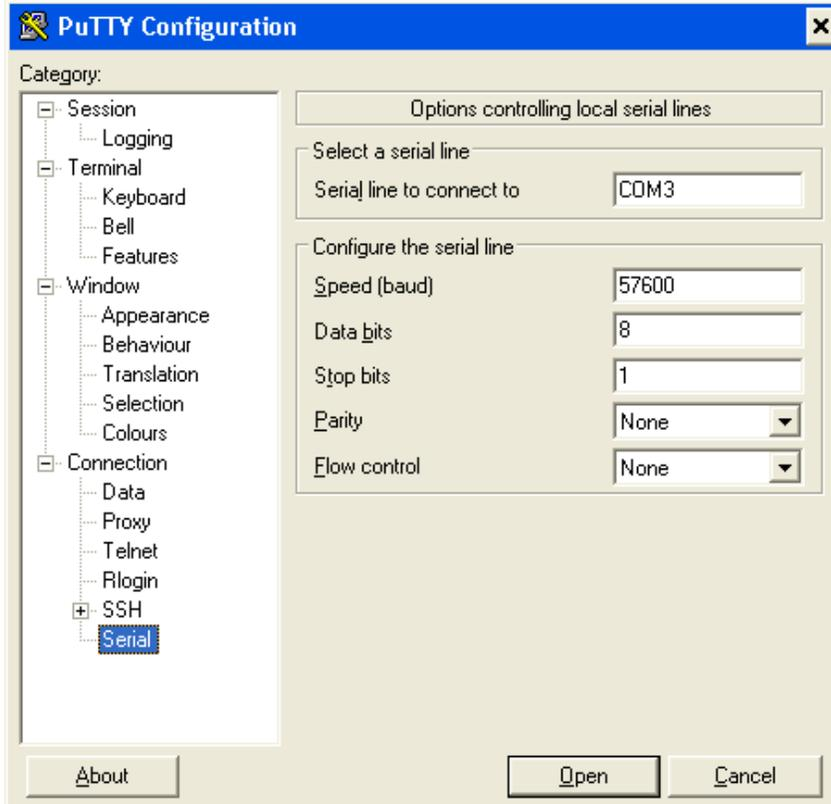

Figure 14: Serial Line Configuration
2. Select Category > **Connection** > **Serial** in the PuTTY Configuration window. The Serial Line configuration window is displayed. Select the following settings (Figure 14):